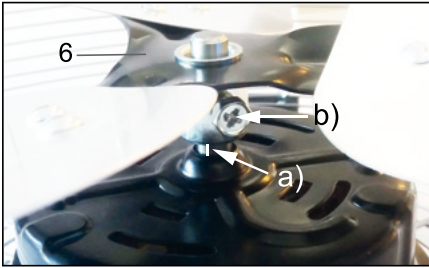

Fig.9: Mounting rotor
- Slide the rotor (6) with the spacer in the direction of the motor onto the axis.
*See Fig. 9 a).*
- Tighten the rotor with the screw on the side of the spacer. See Fig. 9 b).